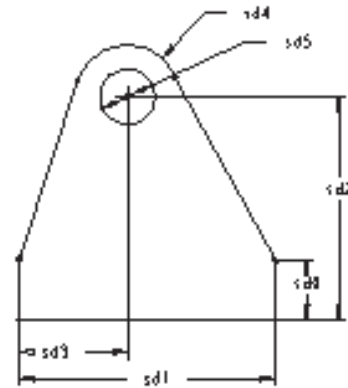

Figure 1-31 Sketch after applying dimensions
All the dimensions that are shown in Figure 1-31 are required to regenerate the sketch. In the figure you will notice that all the entities of the sketch are not dimensioned. This is because dimensioning all the entities is not needed. Pro/ENGINEER highlights the dimensions that are not needed in the sketch in red color after you regenerate the sketch.
3. Now, place the dimension using the middle mouse button on the right of the sketch, see Figure 1-31. The dimension appears as **sd0**. This is the first dimension of the sketch, therefore it is named as sd0.
4. Using the left mouse button select the bottom horizontal line and place the dimension below the sketch using the middle mouse button, see Figure 1-31. This dimension appears as **sd1**.
6. Using the middle mouse button, place the dimension on the right of the sd0 dimension, see Figure 1-31. This dimension appears as **sd2**.
8. Using the middle mouse button, place the dimension above the sd1 dimension, see Figure 1-31. This dimension appears as **sd3**.
2. Using the middle mouse button, place the dimension above the sketch, see Figure 1-31.
The dimensioning of various entities in the sketch is shown in Figure 1-31.
2. Using the middle mouse button, place the dimension on the right of the sketch below the sd4 dimension, see Figure 1-31.